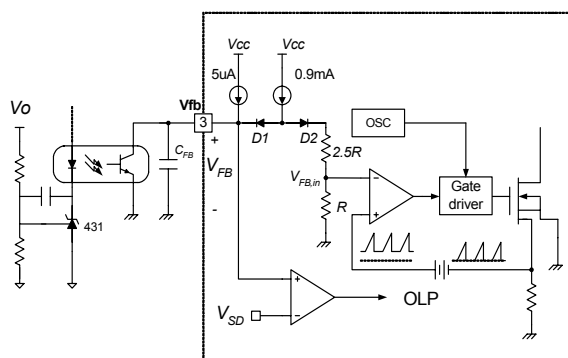

Figure 5. Pulse Width Modulation (PWM) Circuit
**2. Feedback Control** : The FSDx321 employs current mode control, as shown in Figure 5. An opto-coupler (such as the H11A817A) and shunt regulator (such as the KA431) are typically used to implement the feedback network. Comparing the feedback voltage with the voltage across the Rsense resistor plus an offset voltage makes it possible to control the switching duty cycle. When the KA431 reference pin voltage exceeds the internal reference voltage of 2.5V, the opto-coupler LED current increases, the feedback voltage Vfb is pulled down and it reduces the duty cycle. This event typically happens when the input voltage is increased or the output load is decreased.
**4.4 Over Voltage Protection (OVP) :** In the event of a malfunction in the secondary side feedback circuit, or an open feedback loop caused by a soldering defect, the current through the opto-coupler transistor becomes almost zero (refer to Figure 5). Then, V\_FB climbs up in a similar manner to the over load situation, forcing the preset maximum current to be supplied to the SMPS until the over load protection is activated. Because excess energy is provided to the output, the output voltage may exceed the rated voltage before the over load protection is activated, resulting in the breakdown of the devices in the secondary side. In order to prevent this situation, an over voltage protection (OVP) circuit is employed. In general, VCC is proportional to the output voltage and the FPS uses VCC instead of directly monitoring the output voltage. If VCC exceeds 19V, OVP circuit is activated resulting in termination of the switching operation. In order to avoid undesired activation of OVP during normal operation, VCC should be properly designed to be below 19V.